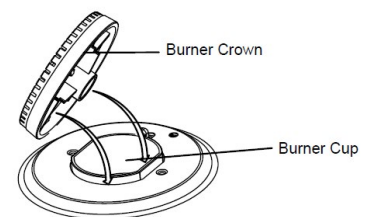

Figure 2
Removing the burners (Refer Figure 2)
- To do this, ensure that the 2 ribs on either side of the spark plug hole are positioned into the 2 slots on the burner cup. (See figure 2).
- Open the lever A completely on the left and right hinges (fig. 2)
- Gently close the door (fig. 3) until left and right hinge levers A (fig. 2) are hooked to part B (fig. 2) of the door
- Triple Glazed oven door: Remove the top frame (G) by unscrewing the 2 screws, located on the left and right sides
- Gently pull out the inner pane of glass (fig. 2). Also remove the centre pane of door glass, not shown here.